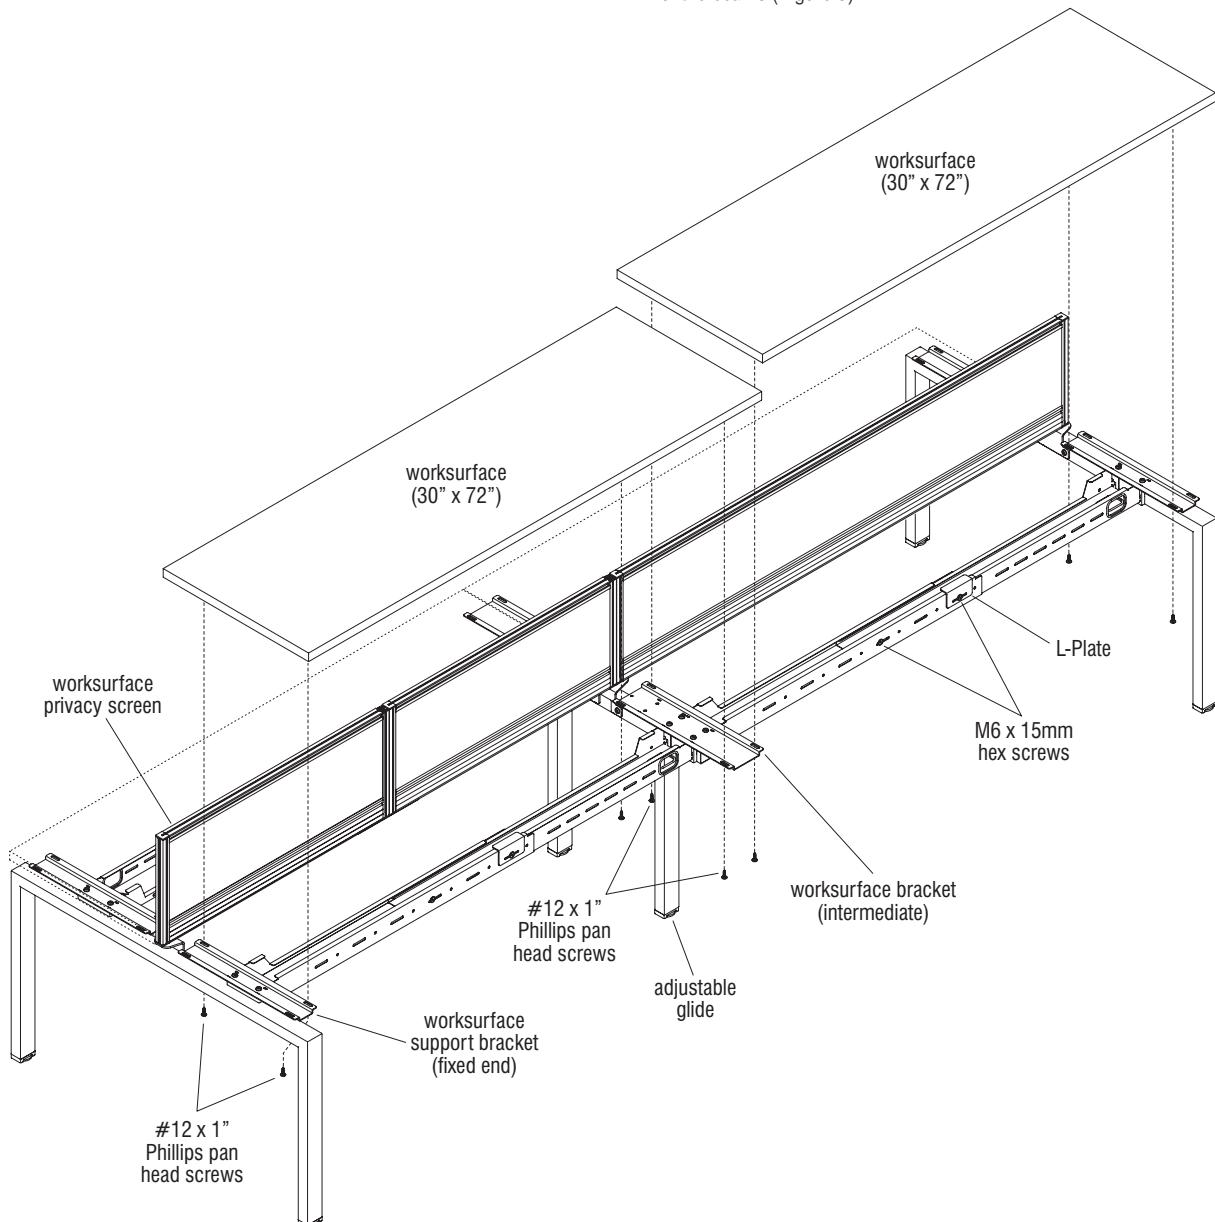

Figure 3 - Dual-Sided Benching - Worksurfaces Installation
the pre-drilled holes in the worksurface with the slots in the worksurface brackets and twist in (two or four) #12 x 1" Phillips pan head screws per bracket only half-way (end worksurface brackets utilize only two screws per bracket) (Figure 3).
2. Push each worksurface back straight tight to the privacy screens to align the worksurface fronts in a uniform manner, then tighten all #12 x 1" Phillips pan head screws to secure (Figure 3).
3. At this time, tighten all of the M6 x 15mm Torx screws into the threaded locking plates in the center of the beams (Figure 3).
4. Finally, position the benching unit(s) to their desired location in the room. To adjust for uneven floor conditions, level the tables by turning the adjustable glides either in or out (Figure 3).